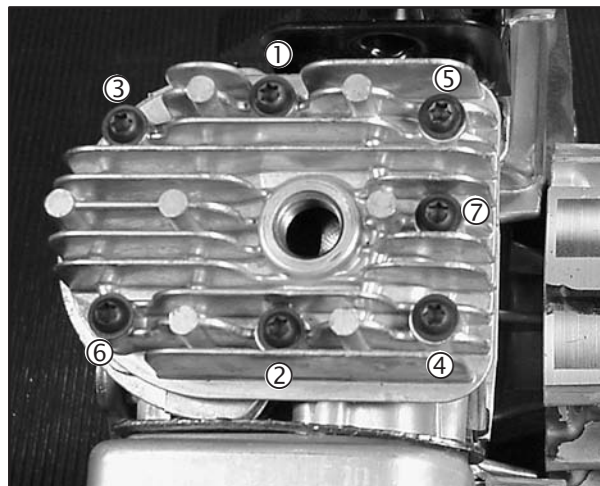

Fig. 29
2. Torque head bolts in sequence shown to 75 in. lbs. (8.5 Nm), Fig. 29.